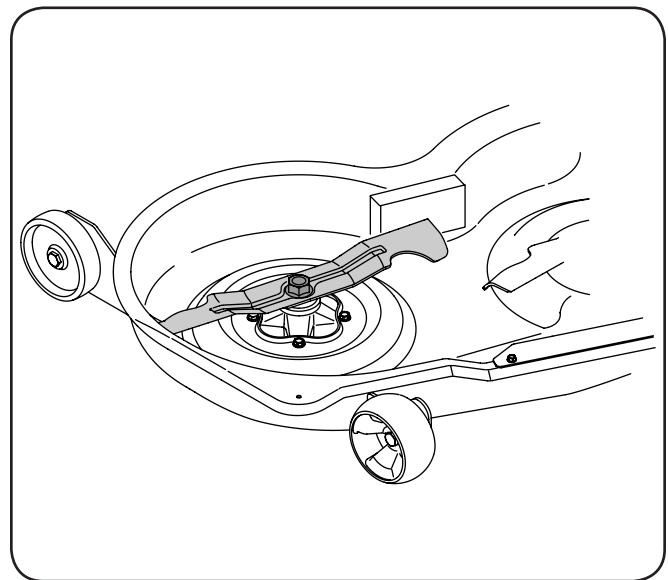

Figure 7-5
- Place a block of wood between the center deck housing baffle and the cutting blade to act as a stabilizer. See Figure 7-5.
- Remove the flange lock nut that secures the blade to the spindle assembly. See Figure 7-5.